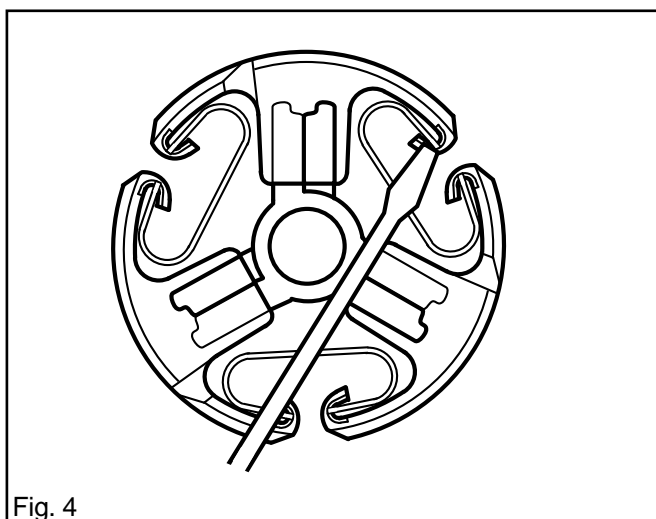

Fig. 4
5. Using a screwdriver, lever in the lip of the spring such that the spring sticks out a little on the other side. See fig. 4.